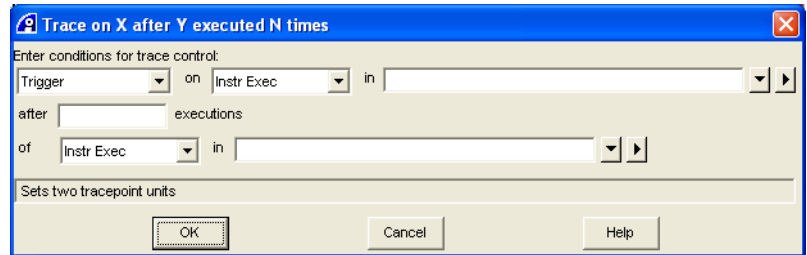

Figure 7-9 Trace on X after Y executed N times dialog box
1. Select **Debug** → **Tracepoints** → **Trace on X after Y executed N times...** from the Code window main menu to display the Trace on X after Y executed N times dialog box. Figure 7-9 shows an example: